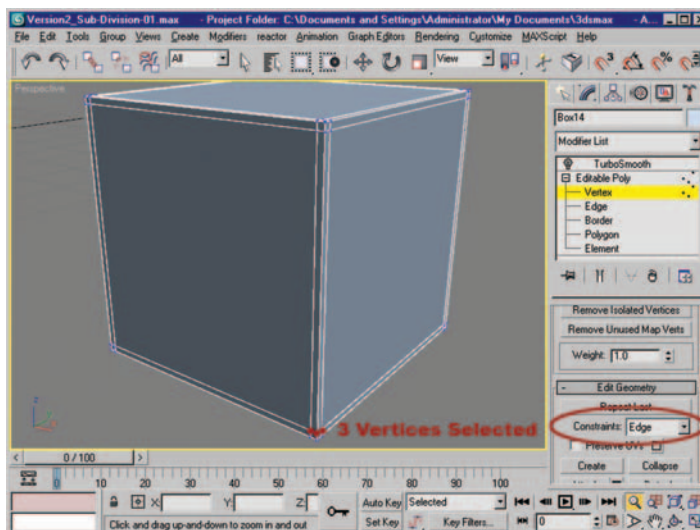

Figure 6.16 Vertex selection and Edge Constraints highlighted.
2. Select the three vertices shown in Figure 6.16 and activate Edge Constraints by hitting Shift+X.